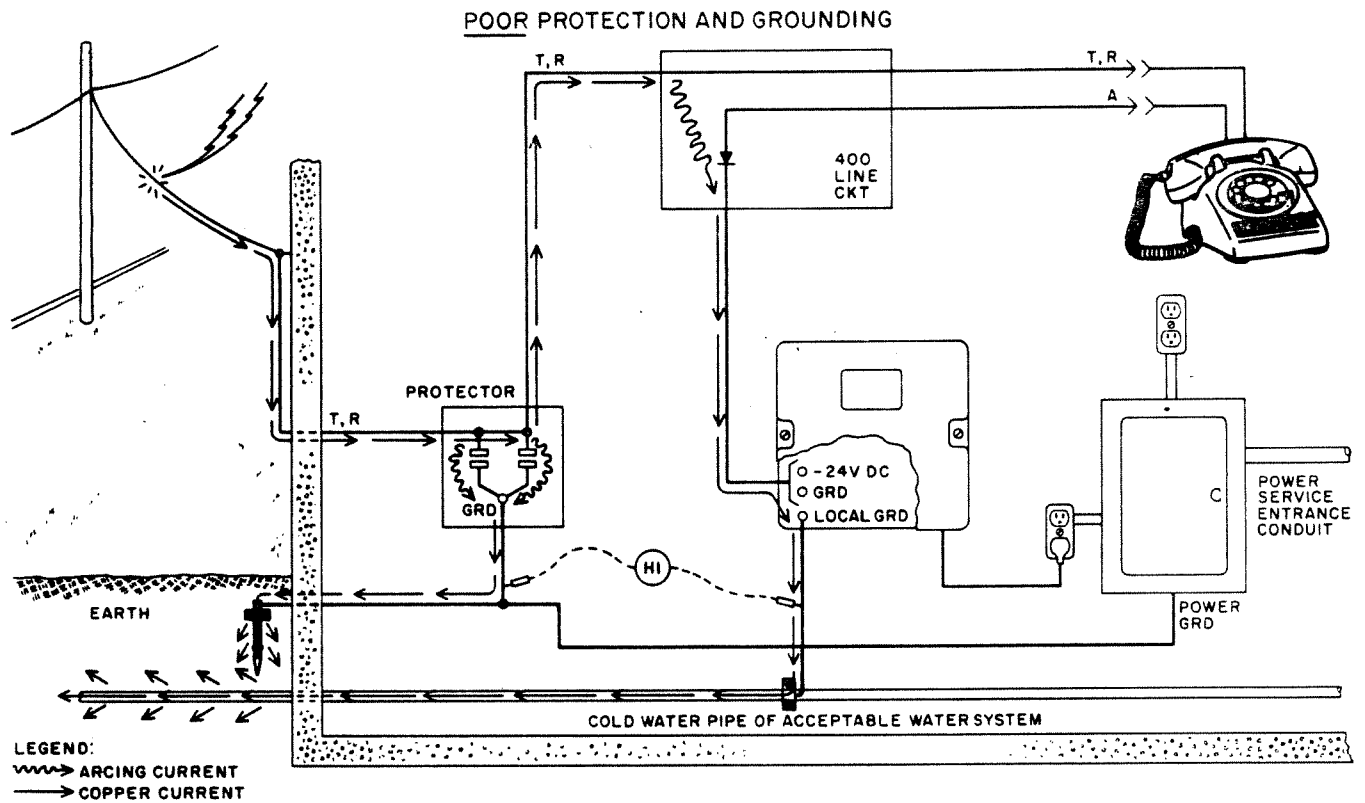

Fig. 9—Protector and AC Power Grounds Bonded to Ground Rod and KTS Power Supply Ground Bonded to Cold Water Pipe
OTHER COMBINATIONS OF KTS GROUNDS (Fig. 9 and 10)
5.07 Possible circuit arc paths can develop when more than a single type of ground is provided for the KTS. Figure 9, eg, illustrates another grounding arrangement that exposes the KTS equipment to possible damage from line surges. The water pipe ground that is shown connected to the power supply is a better ground (lower resistance) than the ground rod; therefore, some of the surge current in the telephone line will attempt to arc across local circuitry in order to discharge energy into the better ground.